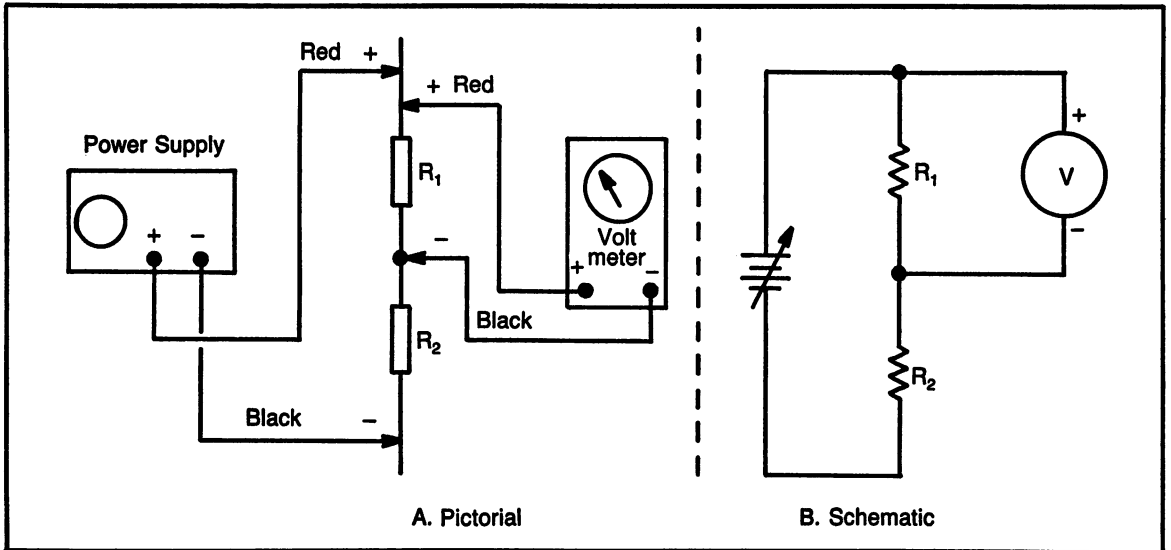

Fig. 9-15. Voltage measured across R1.
(6) Use Fig. 9-15 and 9-16 as samples to measure